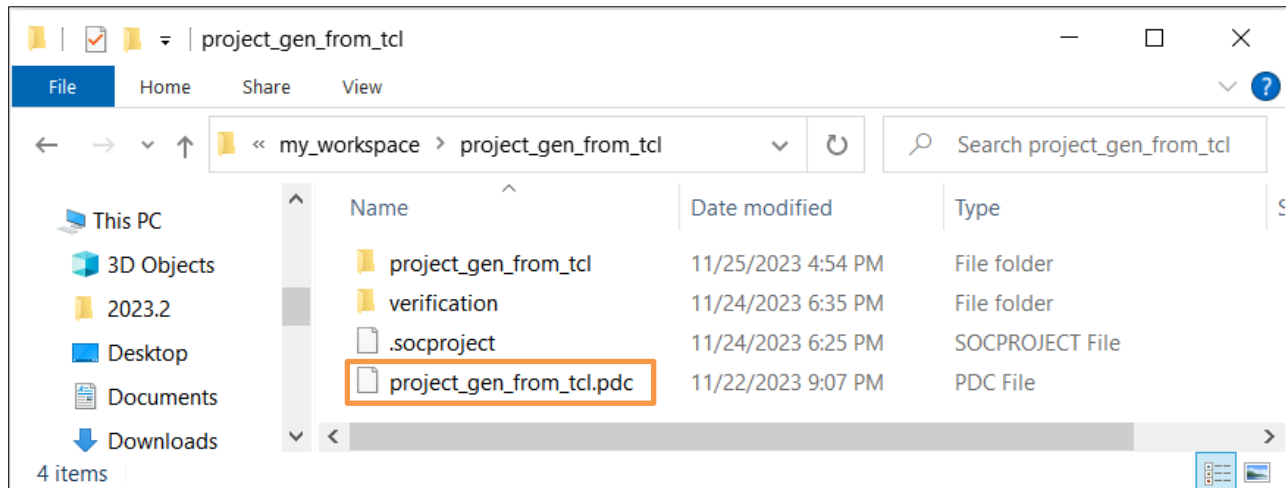

Figure 5.8. Rename Lattice Radiant Constraint File Copied from Source Project
- b. Rename the copied constraint file with the new project name, as shown in Figure 5.8.